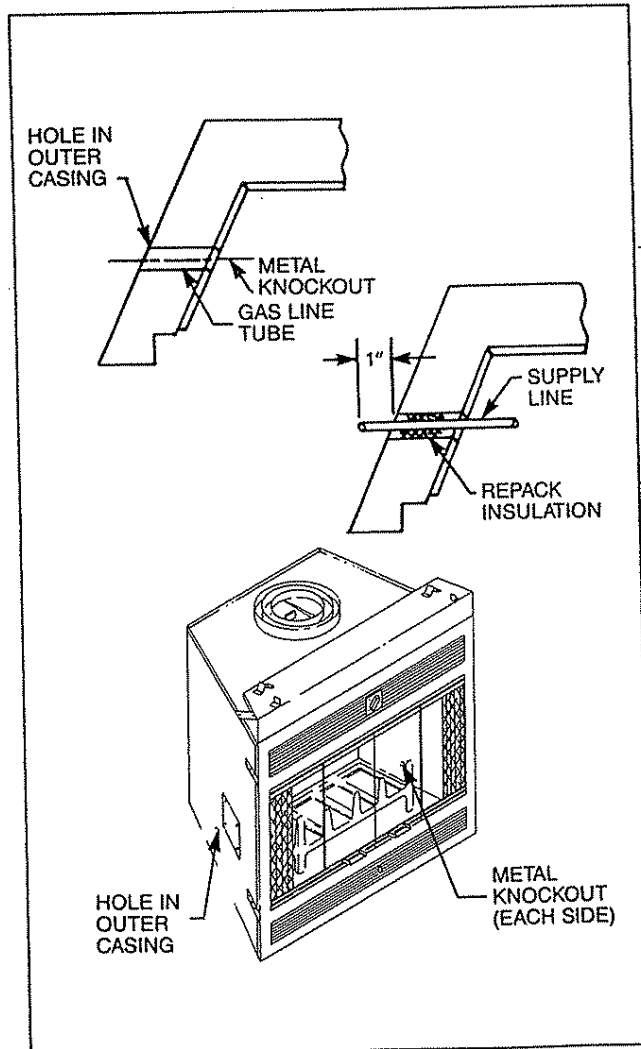

Fig. 29. Install iron pipe gas line through provided hole in either side of fireplace.
Locate the gas line hole in the outer casing of the fireplace and remove the insulation from the gas line tube. (Refer to Fig. 29).
**NOTE:** The gas pipe should not come in contact with any wood structure until it has reached a point at least one (1) inch away from the fireplace side. (See Fig. 29 for installation clarification.)